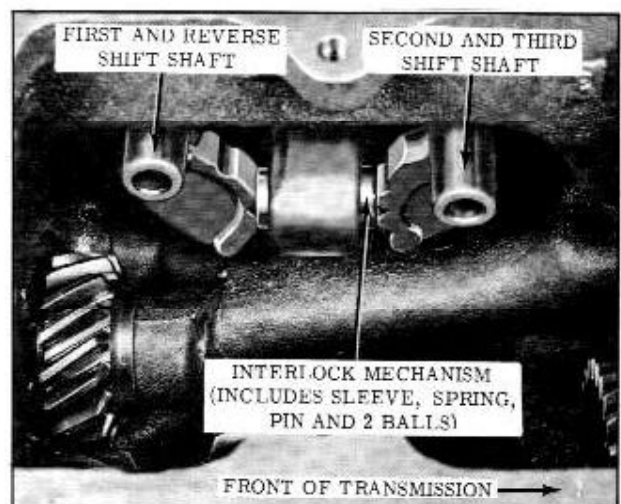

Fig. 10-13 Shift Lever Mechanism
2. Install the first and reverse shift lever and shaft into case. (Fig. 10-13) (Notches far apart)
3. Install the second and third shift lever and shaft into case. (Fig. 10-13) (Notches close together)